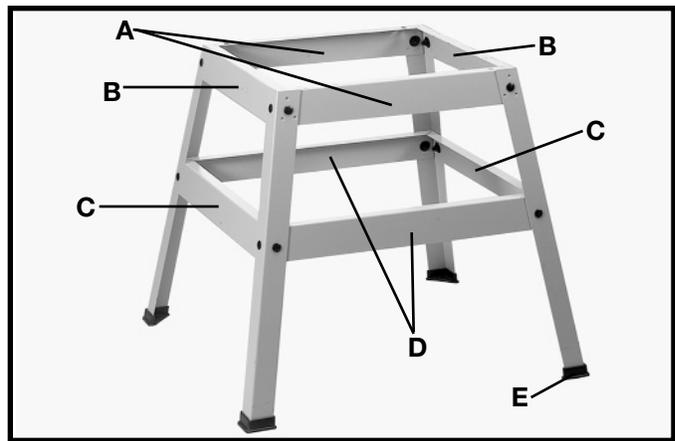

Fig. 4A
1. Assemble the stand as shown in Fig. 4A, using 16 carriage bolts, flat washers and hex nuts. Do not completely tighten the hardware at this time. Letters are stamped on the stand brackets for ease in assembly.
**IMPORTANT: THE TOP FRONT AND REAR BRACKETS (A) FIG. 4A, ARE LONGER THAN THE TOP SIDE BRACKETS (B) FIG. 4A. THE BOTTOM FRONT AND REAR BRACKETS (D) FIG. 4A, ARE LONGER THAN THE BOTTOM SIDE BRACKETS (C).**
2. Assemble the rubber feet (E) Fig. 4A, to the bottom of each leg (F) as shown. **NOTE:** Each rubber foot is provided with holes for mounting the stand to the floor surface if required.